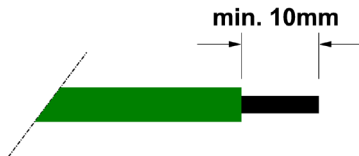

Fig. 3 Example of MOST fiber
- Strip the 2.3mm POF\*-MOST jacket to at least 10mm for the HFBR connector (see figure 3). Do not strip the 1.5mm inner jacket.